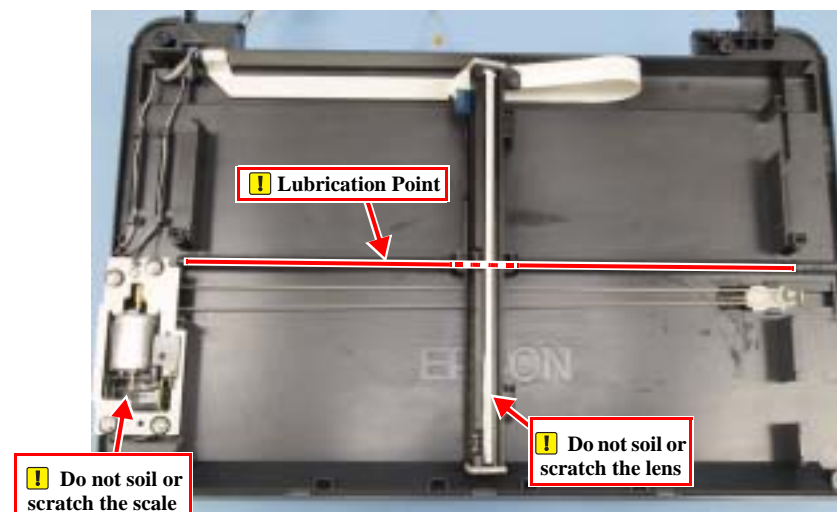

Figure 4-48. Lubrication Point on CR Guide
- Take care in handling the Housing Lower, remembering that grease is applied to the CR guide area of the Housing Lower. Do not touch any parts with a greasy hand or part. (Fig. 4-48)